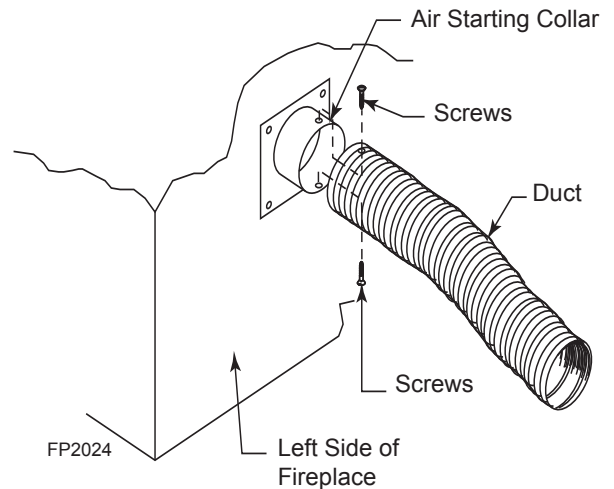

Figure 15
4. Select and cut a piece of duct long enough to attach to the fireplace and stick out at least 3" beyond the face of the wall to which the AK4 inlet air vent will be attached. Cut duct with a standard pocket knife. *Figure 15*